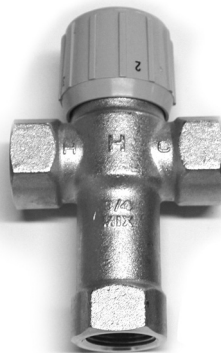

Figure 7 - Thermostatic Mixing Valves installed at each point-of-use can help prevent scalds.
- Point-of-use Thermostatic Mixing Valves (Figure 7 on page 8)
Install Thermostatic Mixing Valves (Figure 7) to regulate the temperature of the water supplied to each point-of-use (for example, kitchen sink, bathroom sink, bath, shower). Con-